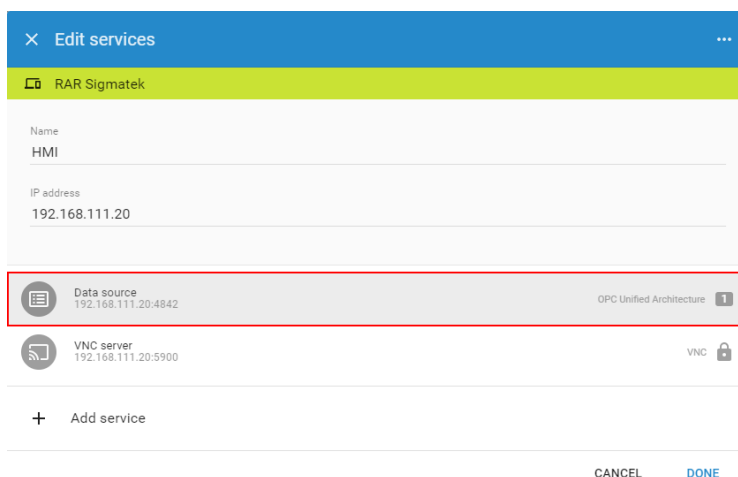

Figure 5.64 Click on the data source to edit the data source configuration.
- b. Select the "Data Source" service (Figure 5.64).